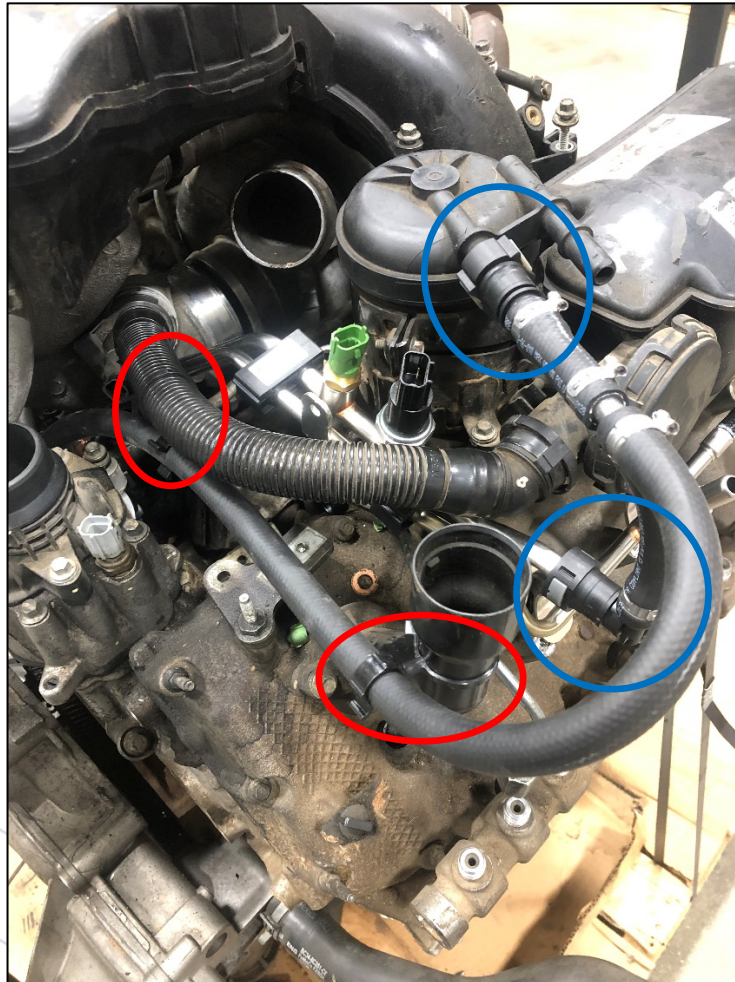

Figure 12: Hose Routing & Zip Tie locations
- d. Push quick connect fittings onto their respective barbs (Figure 12) until you hear an audible click. Give them a small tug to ensure they are seated all the way.
- e. Use the supplied zip tie hose clips to keep the hose from chafing on nearby components (Figure 12)